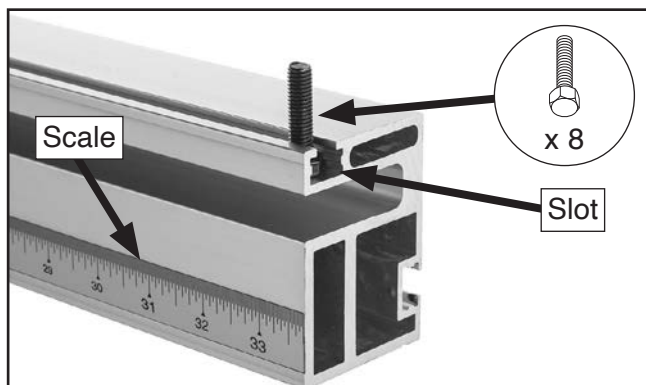

Figure 19. Hex bolt positioned in front fence rail slot.
9. Slide (8) M8-1.25 x 30 hex bolts into slot on right end of front fence rail (see **Figure 19**).